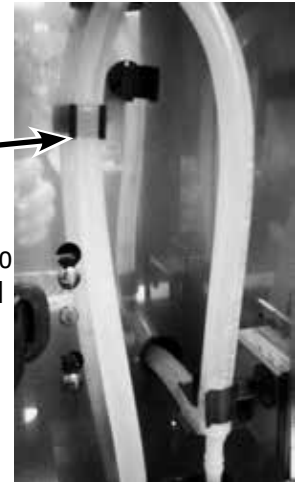

Figure 5
3. Check the sight glass to confirm that the water bath is full (See Figure 5).